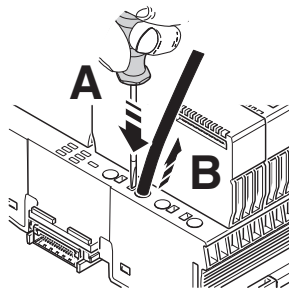

Figure 11-19 Removing the cable
- To remove a cable from the terminal point, press on the actuation slot using a suitable tool (e.g., bladed screwdriver with a blade width of 2.5 mm to max. 3.5 mm). This opens the terminal point (Figure 11-19, A).
- Remove the conductor (Figure 11-19, B).